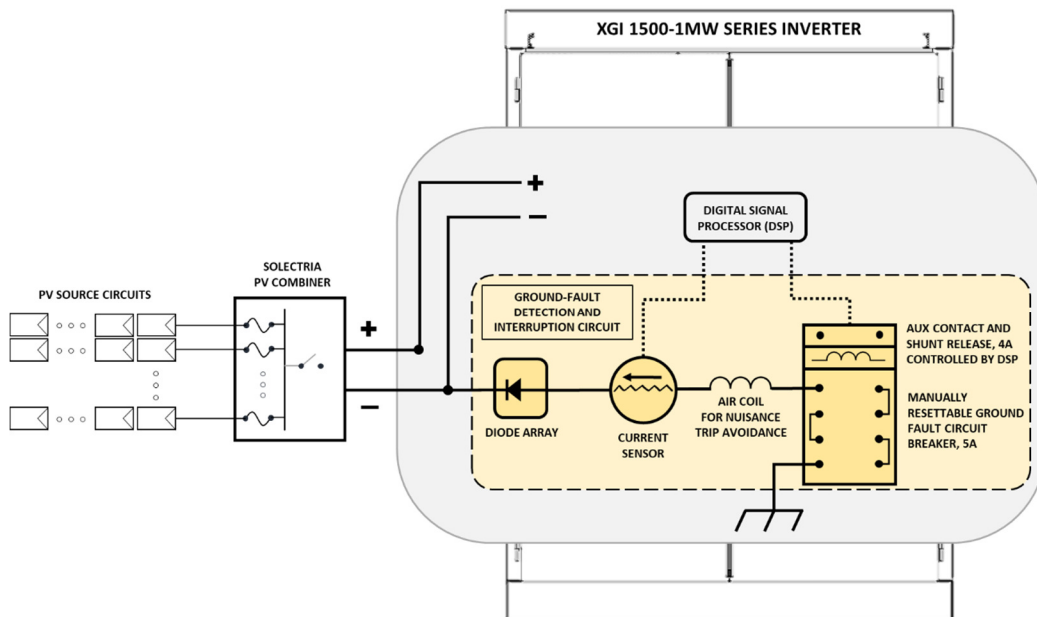

Fig. 5-4. GFDI CIRCUIT IN THE XGI 1500-1MW SERIES INVERTERS
The XGI 1500-1MW inverters come equipped with an internal ground-fault detection and interruption circuit, that functions only when the inverter configuration has DC input grounded. Fig. 5-4. shows the DC Ground Fault Detection and Interruption circuit in the XGI 1500-1MW Series inverters. When the current sensor detects fault current of 4.0A, the breaker is tripped by a signal from the digital signal process (DSP). As a second level of protection, the ground fault circuit breaker will trip at a fault current of 5A.
5.4.1 Typical DC-Coupled Storage Configuration with Floating DC Input (FIG. 5-4)